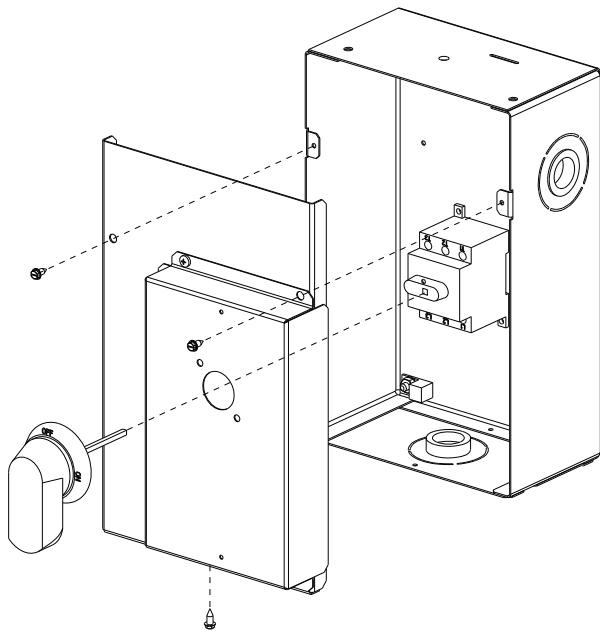

Fig. 66 — Handle and Shaft Assembly for NFD (Size 16)
2. Remove (3) cap head screws that secure the NFD enclosure front cover — (2) on the face of the cover and (1) on the left side cover. See Fig. 66.
5. Insert the shaft with the cross pin on the top of the shaft in the horizontal position. See Fig. 66.
10. Secure the handle to the painted cover with (2) screws and lock washers supplied.
11. Engaging the shaft into the handle socket, re-install (3) hex screws on the NFD enclosure.